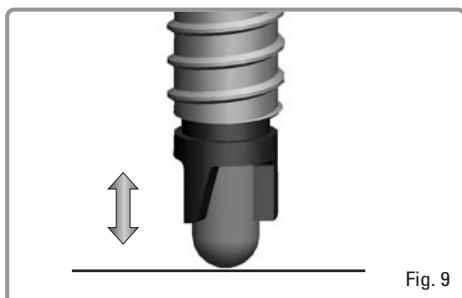

Fig. 9
- **Before using SinCrest, press the probe onto a sterile field and check the correct recovery by means of the spring. (see fig. 9)**